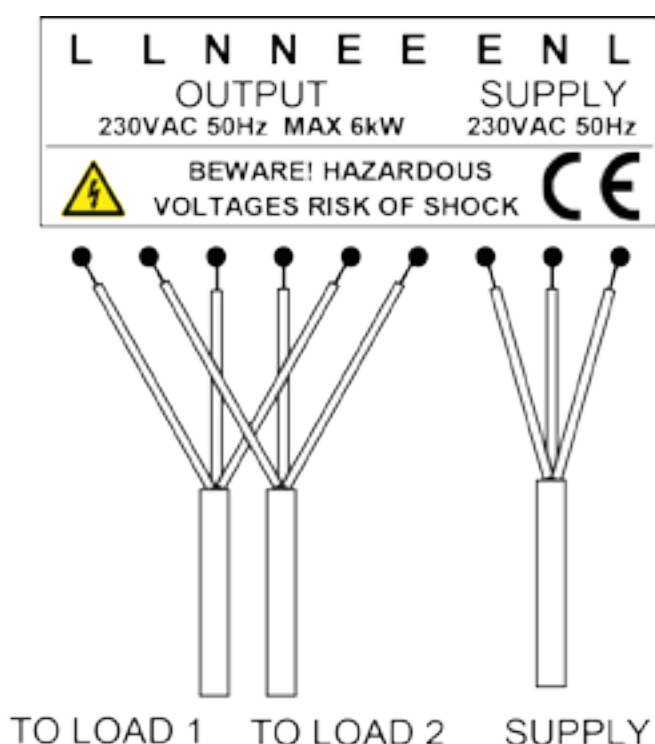

Figure 1 Typical wiring example
7. Connect the wiring to the terminal blocks on the soft start timer as shown in Figure 1 (or any suitably appropriate form).